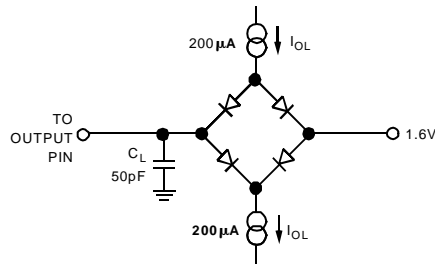

Figure 3. Load Circuit for Access Time and Bus Relinquish Time
- Measured with the load circuit of Figure 3.